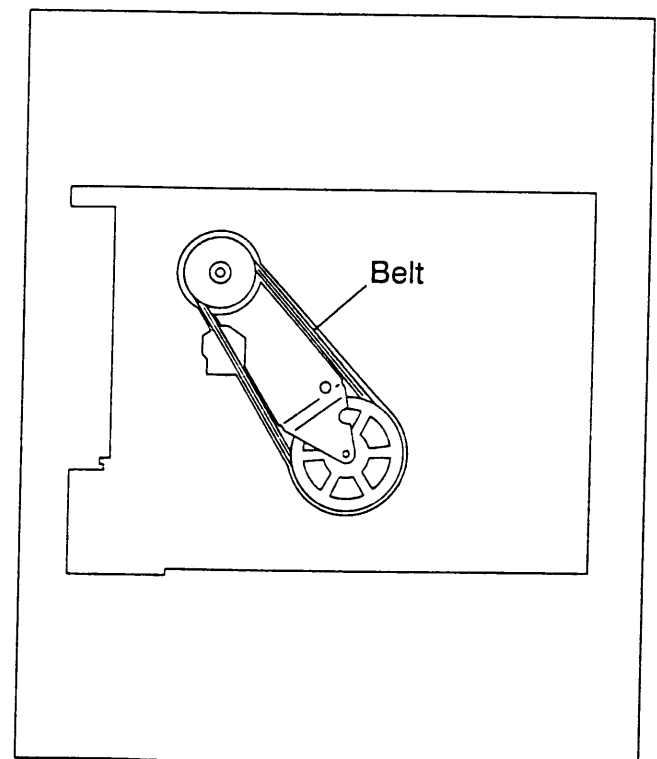

Fig.2-5-10
- (1) Take out 1 slit washer, then remove the lever assy.
- (2) Engage the belt( capstan motor) from bottom of mechanism assy first as indicated in Fig.2-5-10.